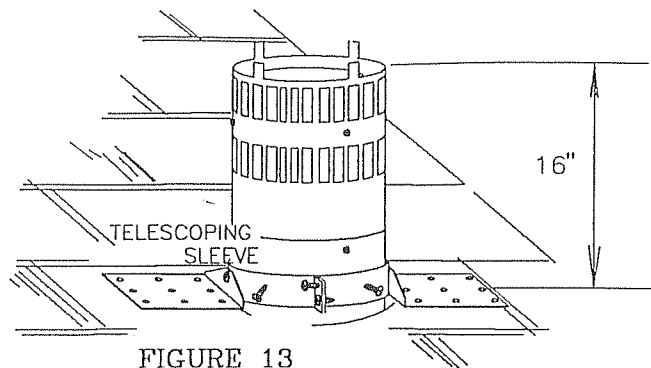

FIGURE 13
4. Attach the telescoping sleeve to the air terminal and secure using the 3 screws provided (Fig.13). Slip an 8" diameter length of aluminum flexible liner a minimum of 2 inches over the outer sleeve of the air terminal. Secure to the sleeve using 3 screws and flat washers. Seal the joint and screw heads using the high temperature sealant (Fig. 11).
5. Thread the air terminal assembly liner down through the roof support, clamping the support to the air terminal. **Do not clamp the flexible aluminum liner.** Fasten the air terminal to the roof support using the screws provided. The air terminal must be located vertically and plumb, a minimum of 16" above the point where it penetrates the roof. **FIGURE 13.**